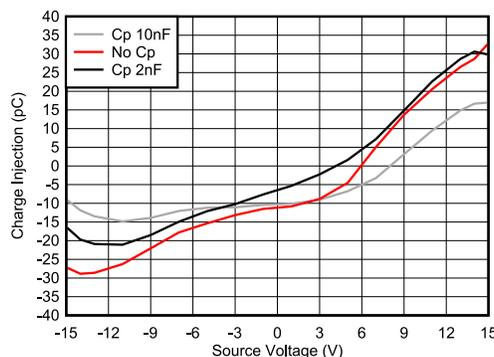

Figure 7-3. Charge Injection Compensation
The TMUX6219-Q1 contains specialized architecture to reduce charge injection on the source (S_x). To further reduce charge injection in a sensitive application, a compensation capacitor (C_p) can be added on the drain (D). This will ensure that excess charge from the switch transition will be pushed into the compensation capacitor on the drain (D) instead of the source (S_x). As a general rule, C_p should be 20× larger than the equivalent load capacitance on the source (S_x). Figure 7-3 shows charge injection variation with source voltage with different compensation capacitors on the Drain side.